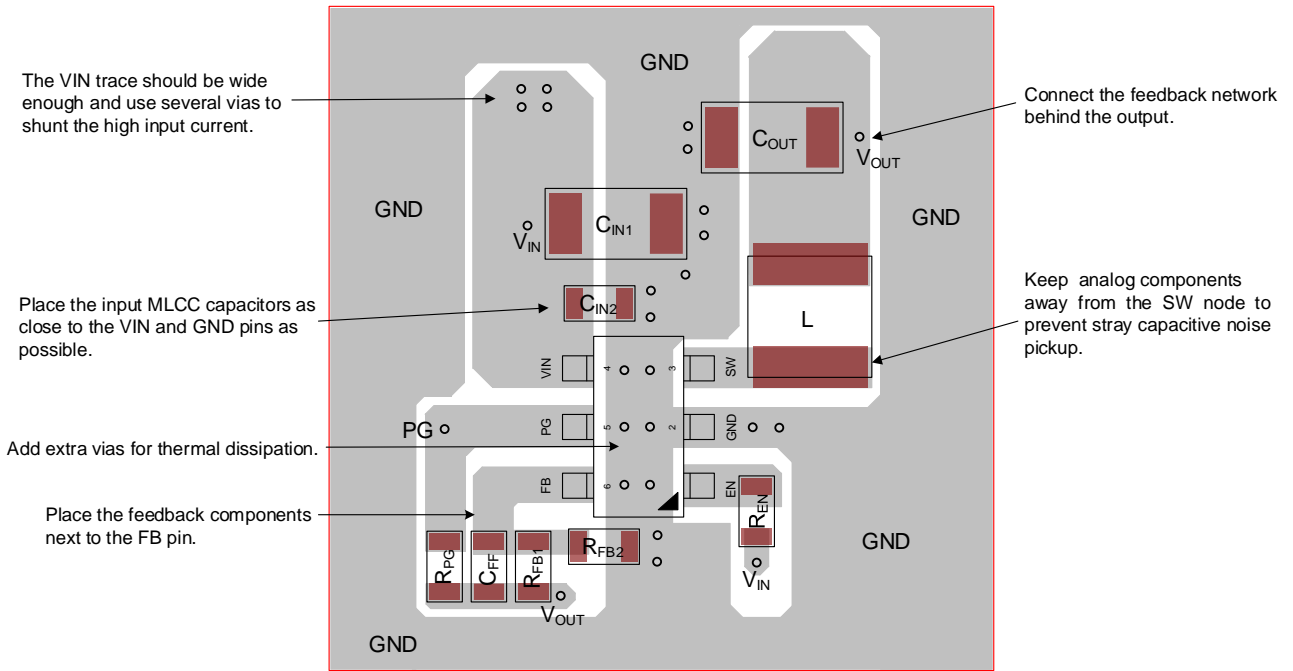

Figure 12. Layout Guide for TSOT-23-6
- An example of a PCB layout guide is shown in Figure 12.